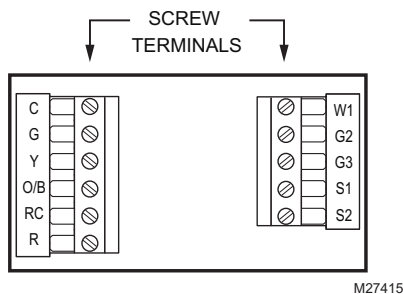

Fig. 8. Terminal identifications for system type.
1. Select set of terminal identifications that correspond to your system type (conventional or heat pump). See Fig. 8.